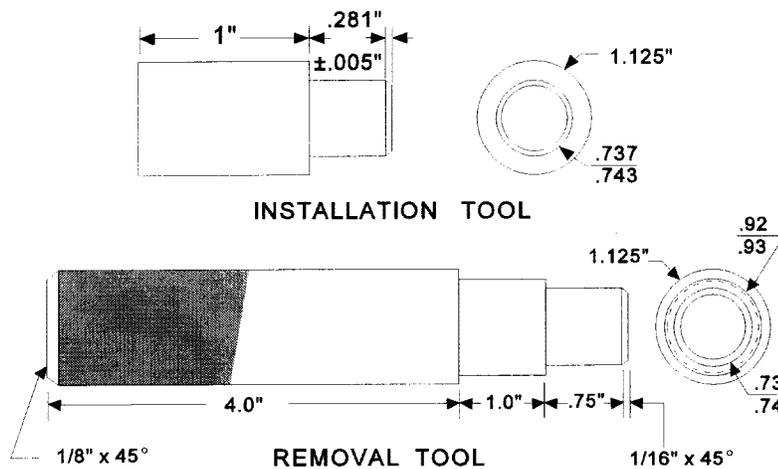

Figure 3-5. Conrod Removal and Installation Tool
- b. Examine all conrod bushings for wear. Remove any bushing that has excessive wear with a large flat tipped punch or the special removal tool illustrated in figure 3-5. This tool can be easily fabricated on a metal lathe. Use a vice to hold the conrod while the bushing is forced out of the hole.
- g. Install the conrod bushings by pressing into place with a vise or with the use of the special installation tool illustrated in figure 3-5. Using this tool along with the vise helps hold the bushing in proper alignment with the conrod while the bushing is pressed into place.